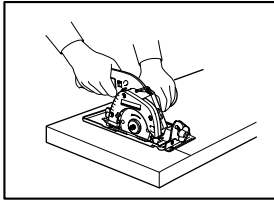
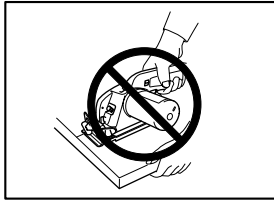

Fig. 5
Fig. 6
17. **Place the wider portion of the saw base on that part of the workpiece which is solidly supported, not on the section that will fall off when the cut is made. As examples, Fig. 5 illustrates the RIGHT way to cut off the end of a board, and Fig. 6 the WRONG way. If the workpiece is short or small,**